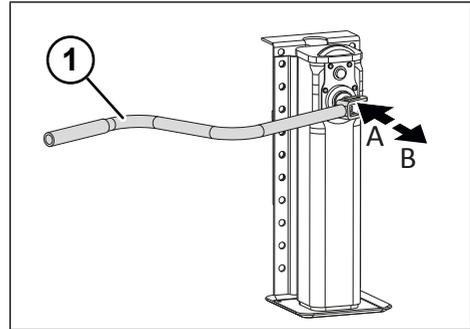

Fig. 5-3: Load speed and high speed of the rear brace
- ▶ Switch on high speed by pulling out the hand crank (see "Fig. 5-3: Load speed and high speed of the rear brace", pg. 23).
- ▶ Switch on load speed by pushing in the hand crank (see "Fig. 5-3: Load speed and high speed of the rear brace", pg. 23).
- ▶ Set to load speed by pushing in the hand crank (see "Fig. 5-3: Load speed and high speed of the rear brace", pg. 23).
- ▶ Set to high speed by pulling out the hand crank (see "Fig. 5-3: Load speed and high speed of the rear brace", pg. 23).